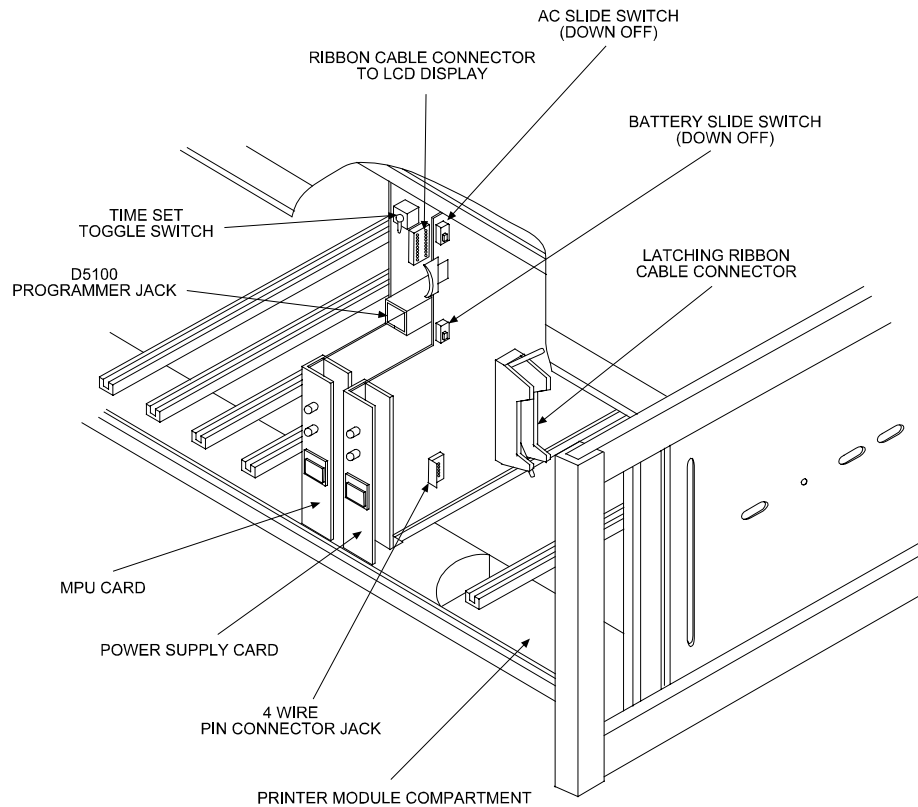

Figure 7-3: Power Supply and MPU Card Connectors and Switches (cut-away view)
3. Unplug the ribbon cable connecting the LCD display to the MPU Card. Use caution when disconnecting this cable. BE CAREFUL NOT TO BEND THE BOARD. Grasp the plastic plug connected to the MPU board at the end of the cable and gently pull it away from the plane of the circuit board (see Figure 7-3).
4. Unplug the ribbon cable from the Ribbon Cable Connector socket on the MPU Card. Use caution when disconnecting this cable. Do not pull on the cable while unplugging it. Grasp the plastic plug at the end of the ribbon cable and gently pull it away from the plane of the MPU circuit board (see Figure 7-3).